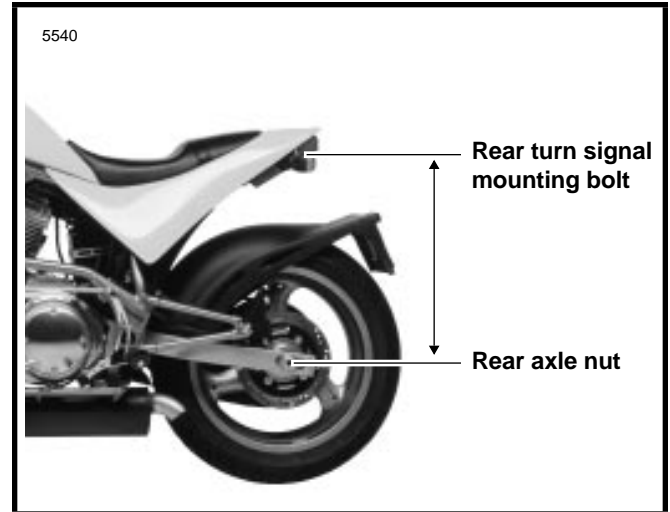

Figure 2-47. Checking Rear Preload
4. See Figure 2-47. Measure the distance from the center of the rear axle nut to the rear turn signal mounting bolt without rider/passenger/cargo/accessories on the motorcycle.